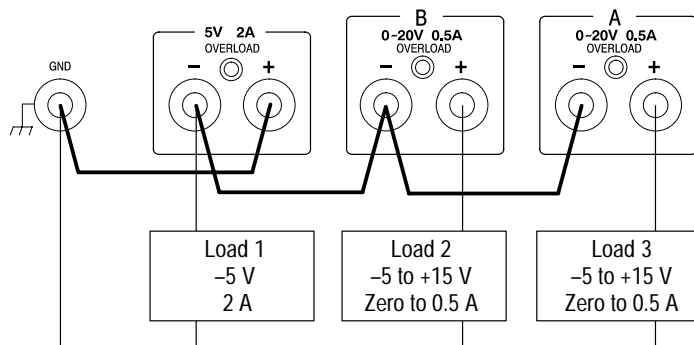

Figure 4: Independent Ground-Referenced Applications (A)
Figure 4 on page 10 shows an example of a circuit with the +5 volt terminal referenced to ground and both the A and B supplies referenced to -5 V. In this configuration, each of the positive-going 20 V supplies can be varied from -5 V to +15 V (+20 V overall). The GND post becomes the negative terminal for the A and B outputs. The V meter will indicate 0 V when the output is -5 V, 5 V when the output is zero, and 20 V when the output is 15 V. Negative 5 V is taken between GND and the black (-) post of the 5 V, 2 A output. To set up this configuration, proceed as follows:
1. Turn the CPS250 **POWER** to **OFF**. Connect the outputs as shown in Figure 4 on page 10.